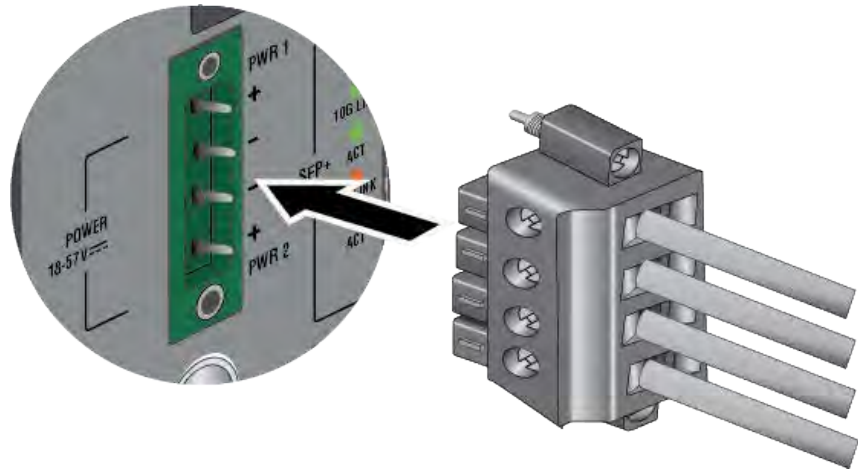

Figure 67. Inserting the POWER Plug into the POWER Connector
2. Insert the POWER plug into the POWER connector on the front panel. Refer to Figure 67.